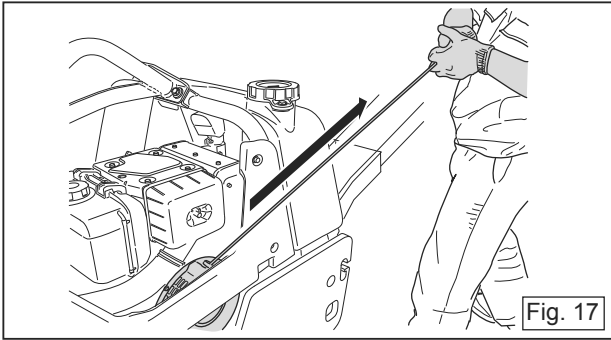

Fig. 17
8. Pull the starting handle back hard and fast. Be aware that if you pull too hard on the rope it may snap. Pull on the starting handle keeping its rope taut and slowly bring the starting handle back to the recoil starter body without letting go of it. (Fig. 17)